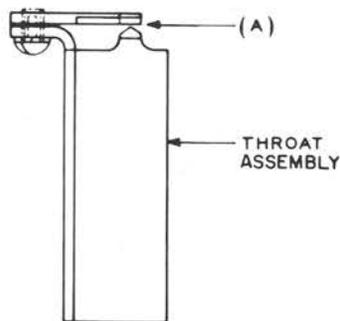

Fig. 40—Gate Gap
- \***2.46 Gate Gap:** The gate gap [Fig. 40, (A)] of each throat assembly shall be